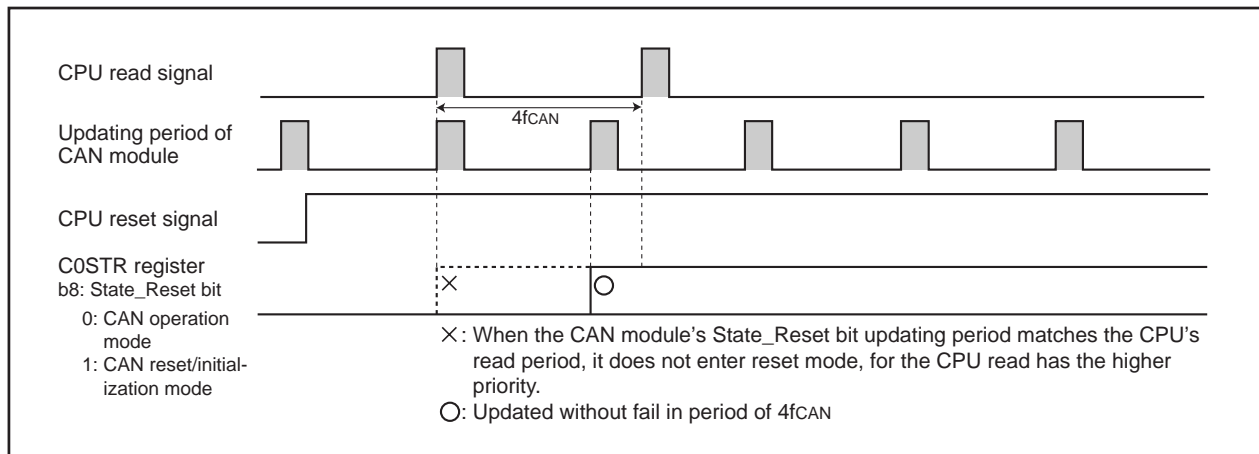

Figure 20.4 When Polling Period of CPU is 3fCAN or Longer
2. When the CPU polls the C0STR register, the polling period must be $3f_{CAN}$ or longer. (See Figure 20.4)